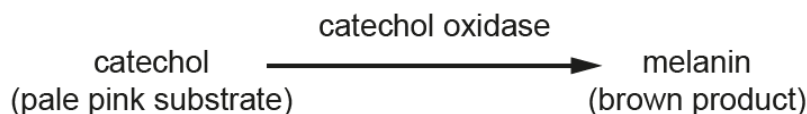

Fig. 2.1
The enzyme catechol oxidase acts on its substrate, catechol, leading to the formation of a brown product, melanin, as shown in Fig. 2.1.
A colorimeter is used to measure the absorbance of the reaction mixture. Absorbance is a measure of the light absorbed by a coloured solution. With the reaction shown in Fig. 2.1, the more intense the brown colour, the higher the absorbance.
- (a) Design an experiment to investigate the effect of catechol concentration on the catechol oxidase-catalysed reaction shown in Fig. 2.1.